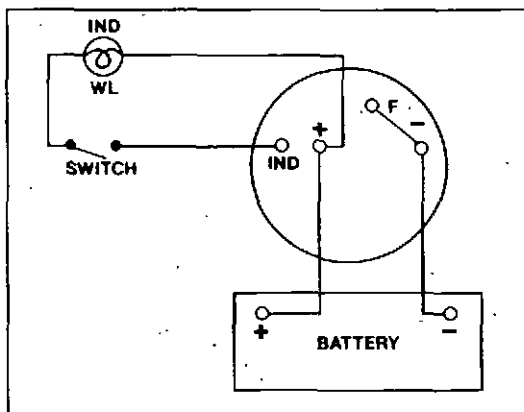

Fig. 32 Test circuit
3. Wire the + and IND connections on the alternator with a lamp and switch as shown in fig. 32. Check the lamp and switch before test. With the switch closed the lamp will light if the regulator is faulty, and will not light if the alternator is faulty.